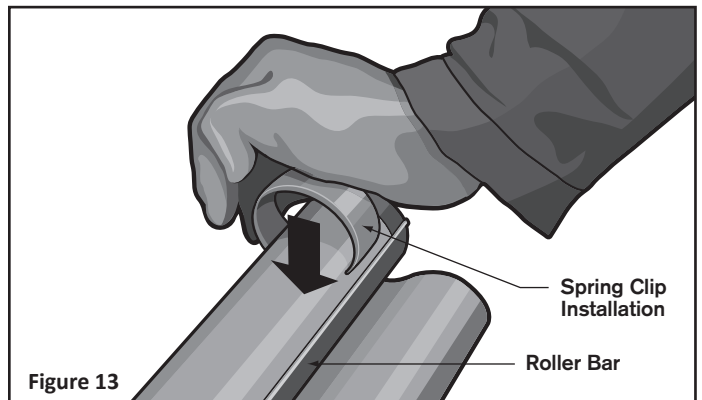

Figure 13
Note: One (1) Clip will be installed over the Fabric on each end of the Roller Bar, approximately one (1) inch from the outer edge of the Roller Bar. All remaining Clips will be installed equally distanced along the Roller Bar, between the two (2) End Clips. See **Figure 13**.
21. Install the existing or supplied Spring Clips over the Fabric, onto the Roller Bar. Align one end of the Clip with the Raised Guide, then using the palm of your hand, press the Spring Clip down, onto the Roller Bar. See **Figure 13** and **13a**.